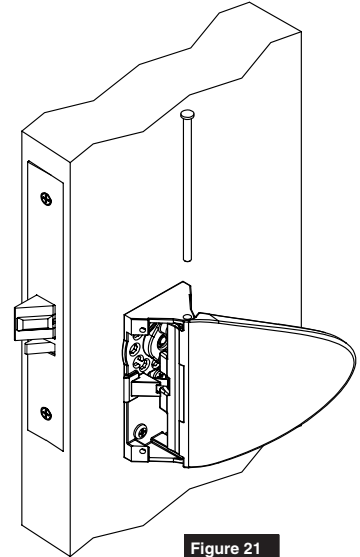

Figure 21
- Attach paddle to chassis in desired orientation by inserting axle through pivot hole. (Figure 21)